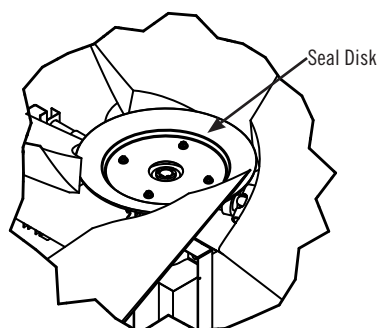

Figure 23. Remove Seal Disk
1. Remove fan seal disk (**Figure 23**).